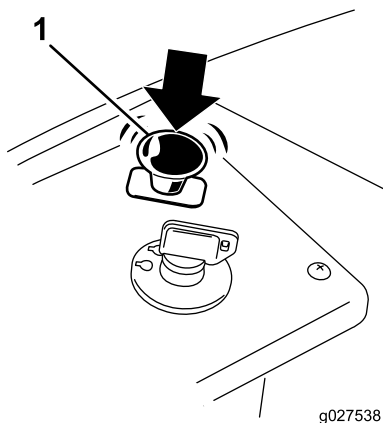

Figure 14
1. Disengage the blades by moving the blade-control switch to Off (Figure 14).